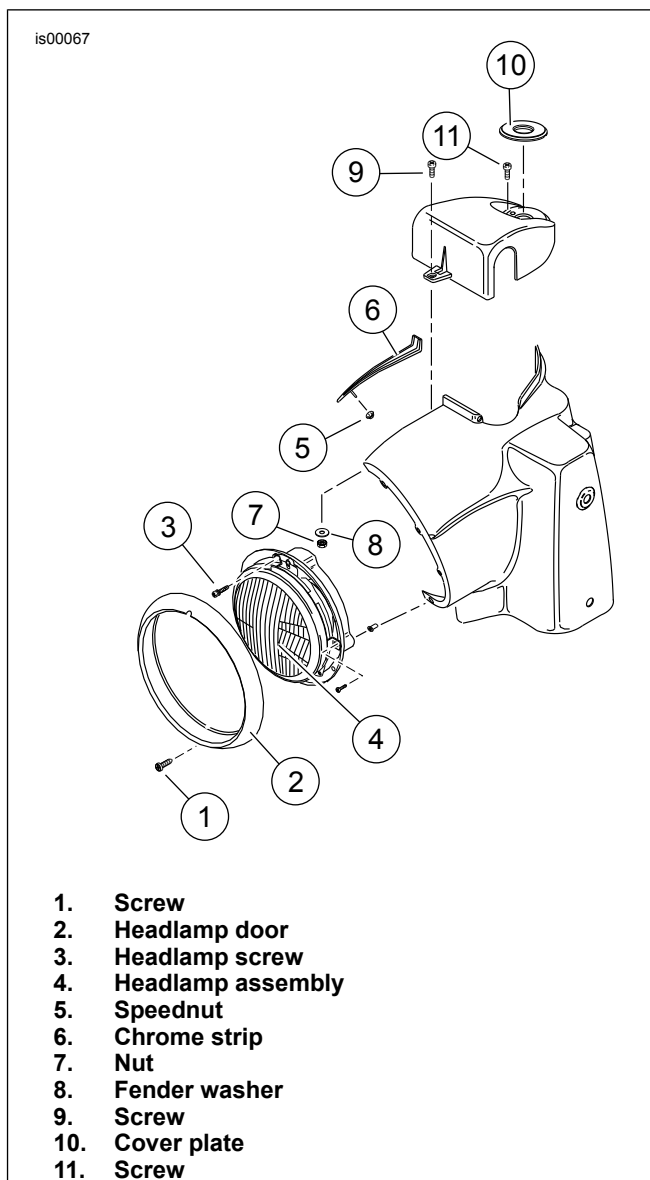

Figure 5. Nacelle and Handlebar Shroud
3. See Figure 5. Remove screw (1), headlamp door (chrome ring) (2), and headlamp screws (3). Retain screws.
4. Separate electrical connector and remove headlamp assembly (4).
5. Remove speednut (5) that holds chrome trim strip (6) in place and remove trim.
6. Carefully pry off fork lock cover plate (10) on top of nacelle handlebar shroud to access screws that hold cover in place.
7. Under plate, remove 2 screws (11) that hold shroud to fork lock.
8. Remove nut (7) that secures the handlebar shroud and remove shroud, screw (9) and fender washer (8).